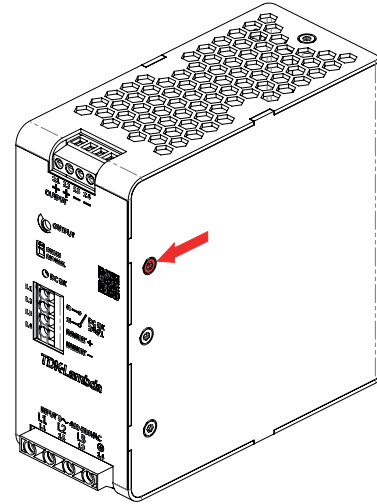

Fig. 27: Position of the connection screw for the GDT
- 1) Completely remove the connection screw (marked with an arrow) with a Torx X10. (see Fig. 27)